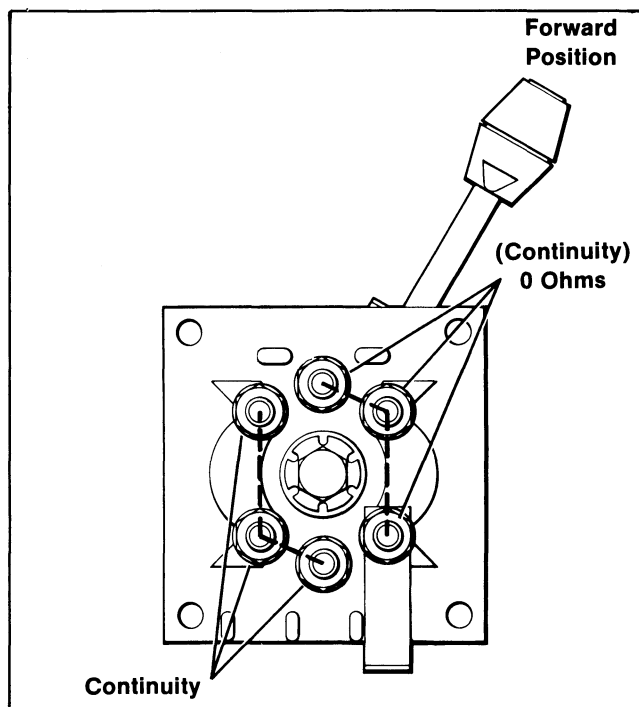

Figure 8-14. Correct Continuity in Forward Position
2. Using ohmmeter or continuity tester, check for continuity in both forward and reverse positions. The ohmmeter should be set at RX1 and should have 0 ohms reading. If continuity tester is used the lamp should light. See Figure 8-14 and 8-15.